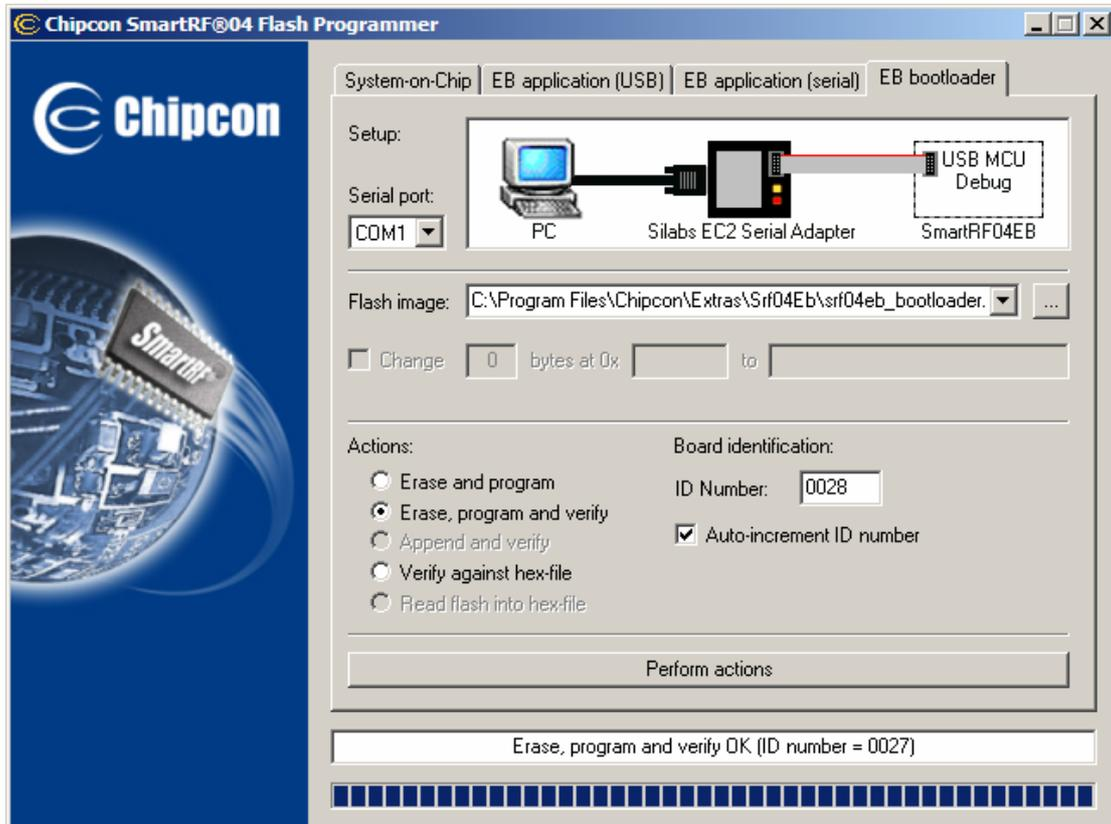

Figure 9. EB Bootloader Tab
- Start the Flash Programmer and choose the EB bootloader tab (see Figure 9).